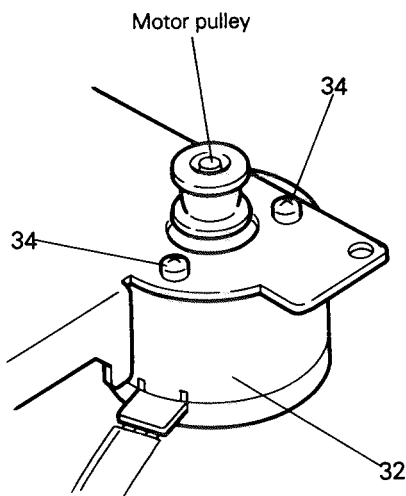

Fig. 7-24
■ **Capstan motor and Flywheel** (Fig. 7-24 through 7-26)
1. Place the cassette mechanism upside down to expose the bottom. (Fig. 7-24)
2. Remove three screws (37) retaining the FR bracket assembly from the chassis base. (Fig. 7-24)
3. Expand two pawls (B, C) retaining the FR bracket assembly in the direction of the arrow to remove them. (Fig. 7-24)